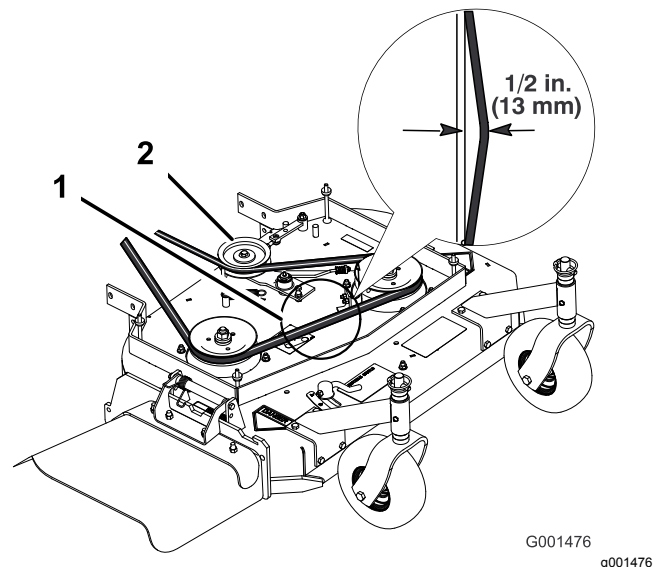

Figure 44
Note: The proper mower belt tension is 44 to 67 N·m (10 to 15 ft-lb) with the belt deflected 13 mm (1/2 inch) halfway between the pulleys (Figure 44).
3. Loosen the locknut on the turnbuckle (Figure 44).
4. Rotate the turnbuckle toward the rear of the mower to increase the tension on the belt. Rotate the turnbuckle toward the front of the mower to decrease the tension on the belt (Figure 44).